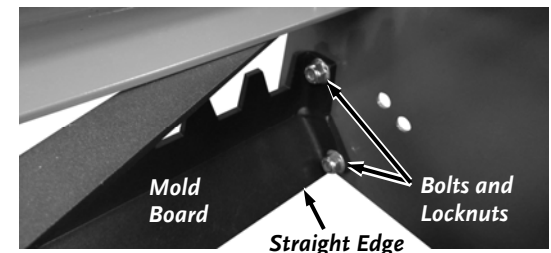

Figure 41
- Remove the Bolts and Locknuts securing both ends of the Mold Board to the Power Grader Frame using two 9/16" Wrenches (**Figure 41**).